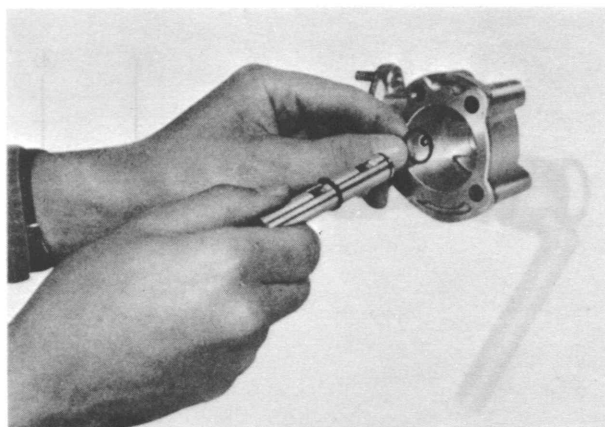

Fig. 2-8 Assembling oil pump
3. Fix the thrust washer to the stop ring of the shaft as shown in Fig. 2-8. Mount the inner rotor and shaft assembly to the pump body.